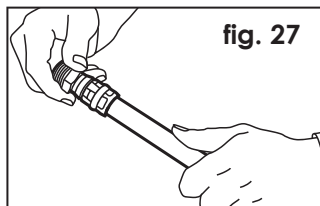
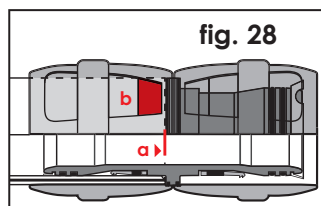
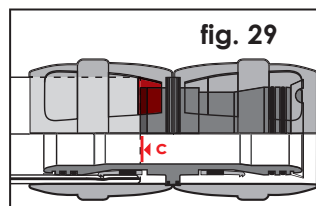

fig. 27
fig. 28
fig. 29
b) Push the fitting as far as possible into the pipe (fig. 27, 28, a); the correct insertion depth is indicated if the pipe's end reaches well into the inspection area of the plastic sleeve (fig. 28, b). The pipe's end may not retreat from this area after the pressure test or during operation (fig. 29, c).